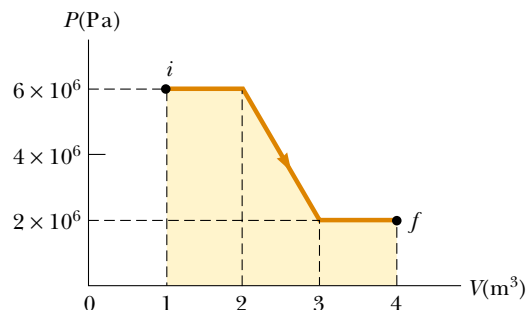

Figure P20.22
22. (a) Determine the work done by a fluid that expands from i to f as indicated in Figure P20.22. (b) How much